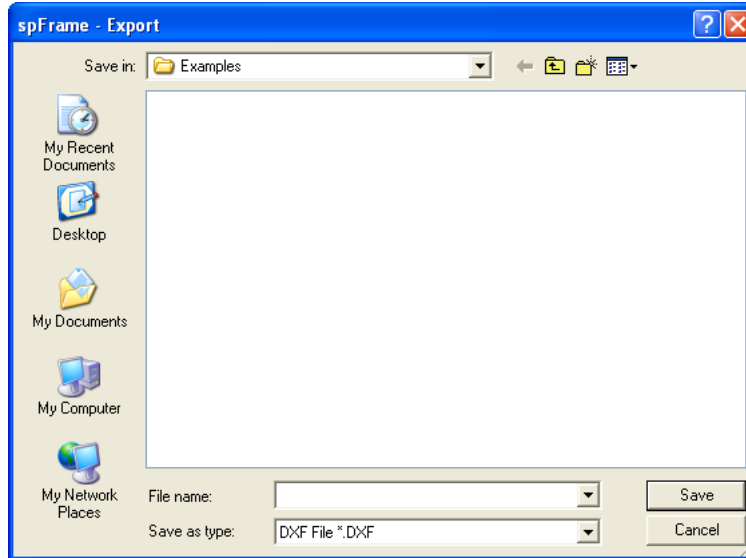

Figure 3-5 Export dialog box
- From the **File** menu, select **Export**. The dialog box of Figure 3-5 appears.